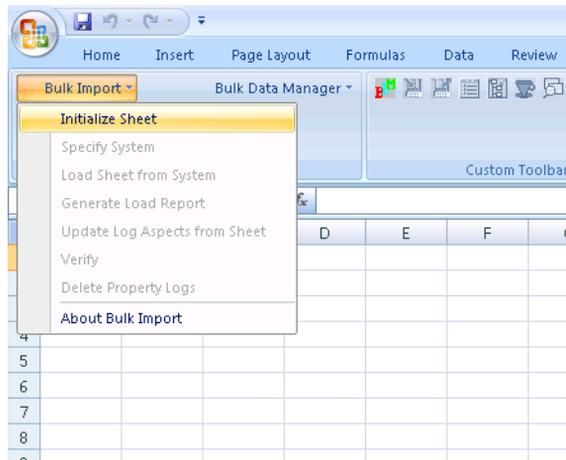

Figure 209. Initializing the Workbook for Bulk Configuration
2. To set up the workbook for bulk configuration, choose **Bulk Import > Initialize Sheet**, Figure 209. Click **OK** to delete all sheet data.